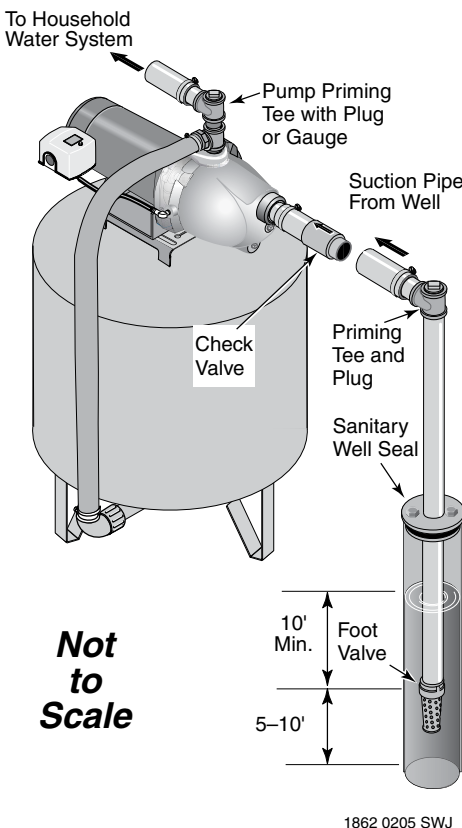

Figure 2: Cased Well Installation
CASED WELL INSTALLATION, 2” OR LARGER CASING (Figure 2)
- Step 2. Assemble the foot valve, strainer, and well pipe (see Figure 2). Make sure that the foot valve works freely.
Step 4. Install a priming tee, priming plug, and suction pipe to the pump (see Figure 2). Connect the pipe from the well to the pump suction port, using the fewest possible fittings – especially elbows – as fittings increase friction in the pipe (however, include a foot valve – see Figure 2). The suction pipe should be at least as large as the suction port on the pump. Use PTFE pipe thread sealant tape on threaded pipe joints. Support the pipe so that there are no dips or sags in the pipe, so it doesn't strain the pump body, and so that it slopes slightly upward from the well to the pump (high spots can cause air pockets which can air lock the pump). Seal the suction pipe joints with PTFE pipe thread sealant tape. Joints must be air- and water-tight.